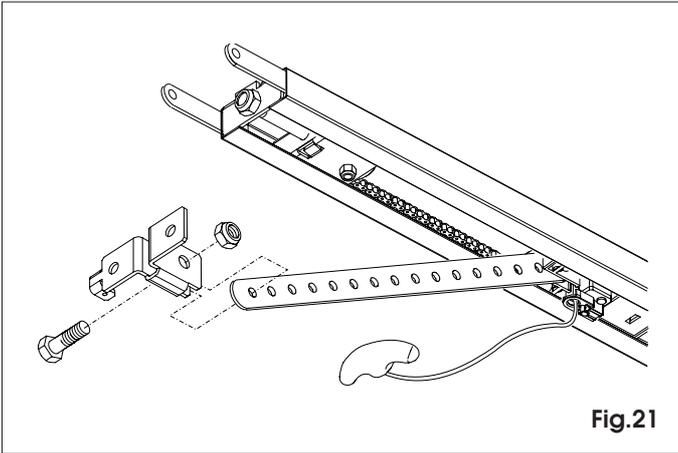

Fig.21
7.17 Secure the attachment to the drive shaft, using a suitable screw and nut (fig. 21).